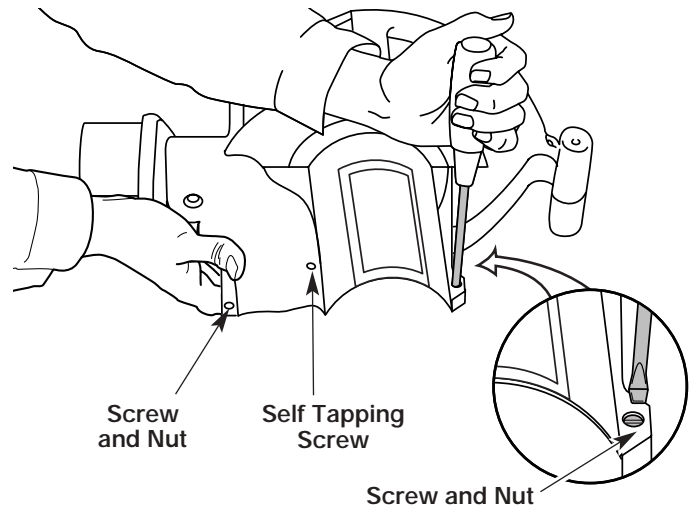

Fig. 2
3. Insert the 2 (two) 8-32 x 3/4" slotted T20 Torx screws into the right side of the motor housing and the 2 (two) nuts into the left side of the motor housing (Fig. 2).
5. Install the 2 (two) remaining self-tapping 8-16 x 3/4" slotted T20 Torx screws into the holes on either side of the housing (Fig. 2). Tighten until snug, do not over-tighten.
2. Remove the 2 (two) screws and nuts holding the blower/vacuum tube on the housing (Fig. 2).